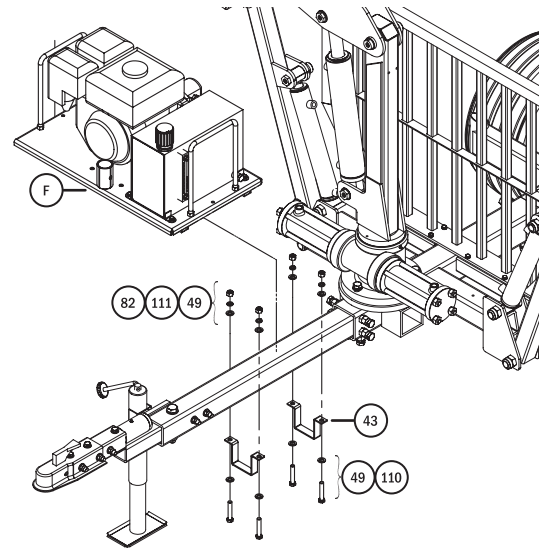

Fig. 12
**Step 15: Install the Engine Assembly.** With the help of another person, place the Engine Assembly (F, **Fig. 12**) onto the tow bar just in front of the Stabilizer Frame Base. Use the two Engine Tray U-Brackets (43), to attach the Engine Assembly (F), to the tow bar using the Bolts (110), Flatwashers (49), Lockwashers (111), and Nuts (82). Tighten the fasteners until the lockwashers are compressed since over-tightening may bend the U-brackets.